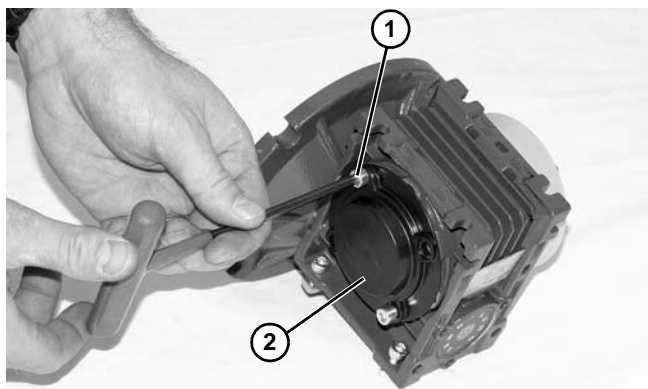

Figure 22
7. Remove two (2) screws (**Figure 22, item 1**) and detach output shaft cover (**Figure 22, item 2**).